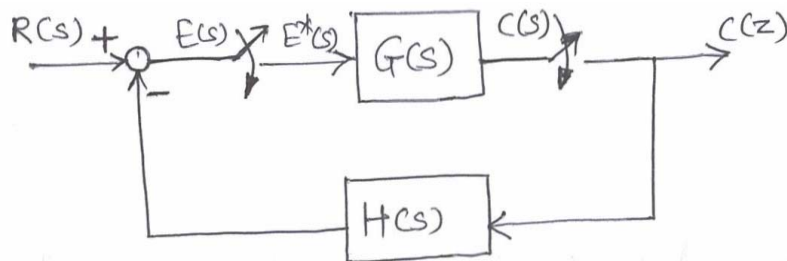

Figure 2.
- Q8) a)** Determine the pulse transfer function of the sampled data system shown in the figure 2. [12]